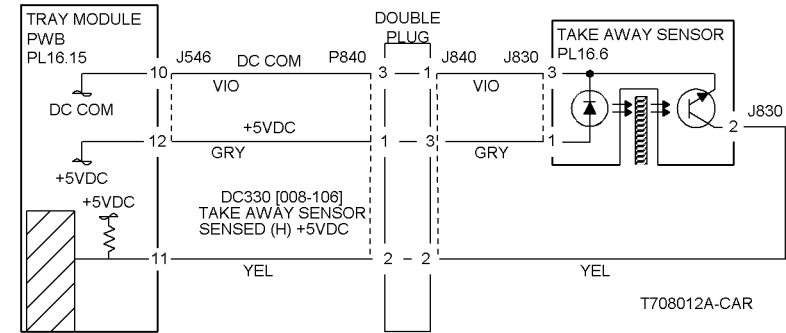
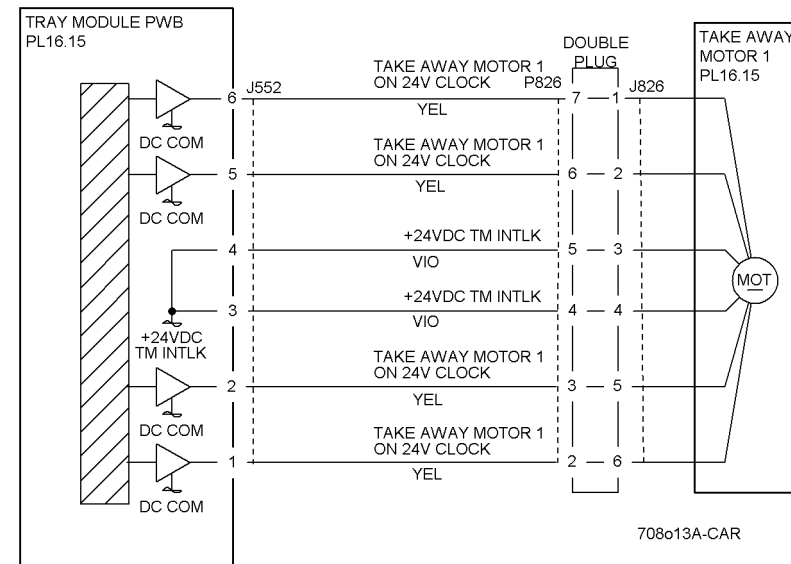
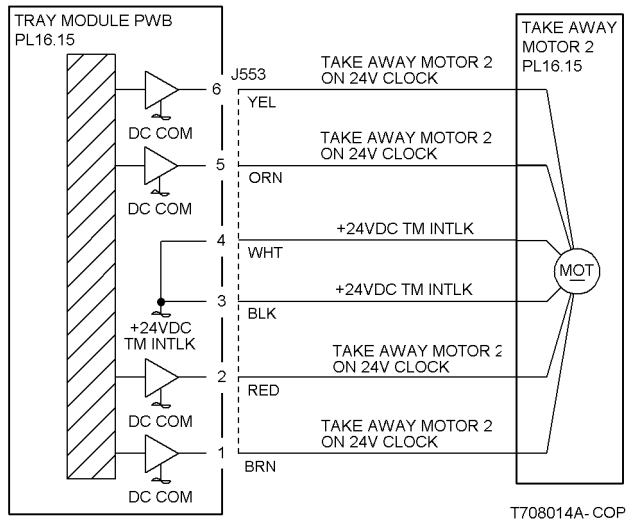

Figure 1 Takeaway Sensor CD
Figure 2 Takeaway Motor 1 CD
Figure 3 Takeaway Motor 2 CD
Press Stop. Check the circuit of the Takeaway Motor 2 (Figure 3). Refer to the OF 99-9 RAP for troubleshooting procedure.
- Ensure that the connectors shown in the circuit diagrams (Figure 1, Figure 2, Figure 3) are securely connected and that the wires are not damaged.